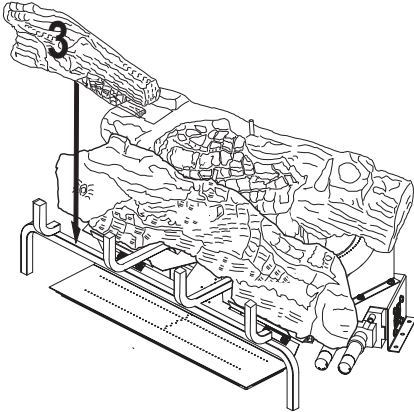

Figure 39 - Installing Log # 3
3. Place the front left log (#3) onto the base assembly between the middle log (#2) and the grate fingers. The back of the front left log (#3) will rest against the front of the middle log (#2). The notch at the end of the front left log (#3) will fit around the grate bar. See Figure 39, page 22.